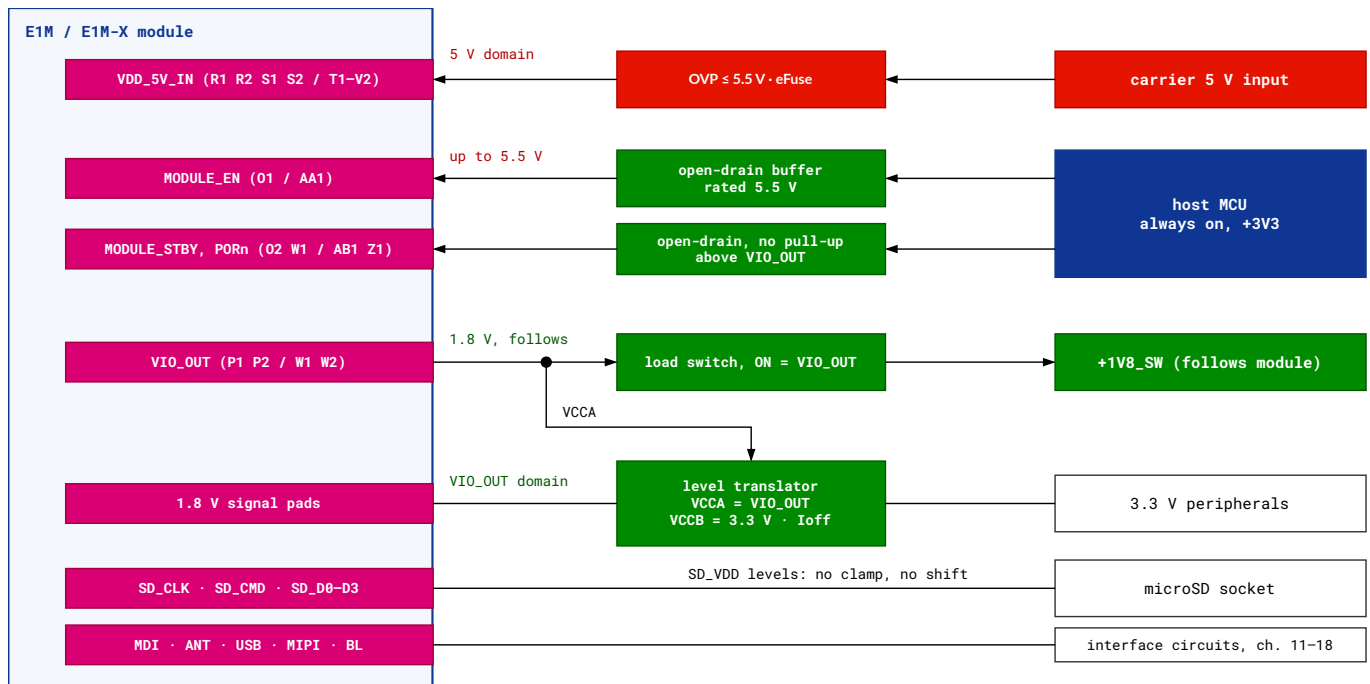

Figure 3 Carrier voltage domains around a module
VI0_OUT is 1.8 V in this revision of the specification, and every reference module is a 1.8 V module (E1M-STD §6.1.2 (1)). Every signal pad is in the VI0_OUT domain unless the specification or the module manifest names another domain (E1M-STD §6.7.1). Figure 3 shows the domains a typical carrier has and where they meet.